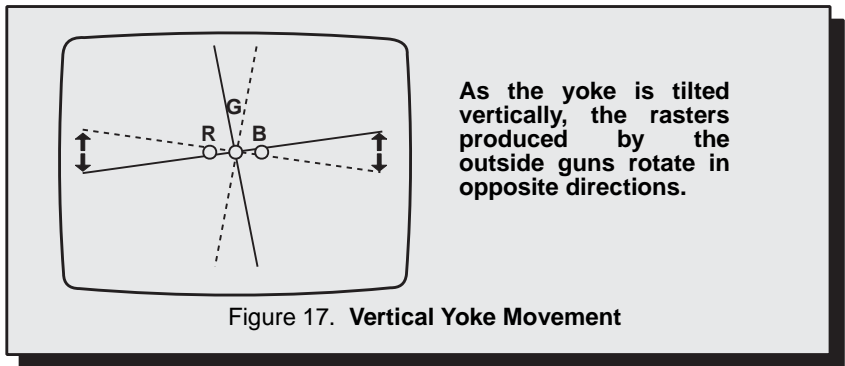
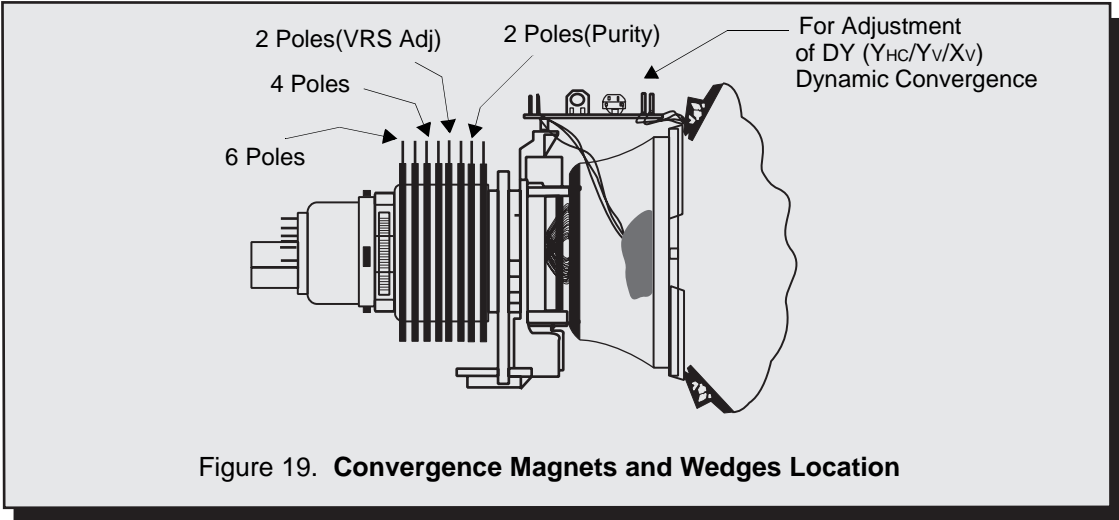

Figure 17. Vertical Yoke Movement
Figure 19. Convergence Magnets and Wedges Location
Final Convergence Procedure (see Fig. 17 through Fig. 19):
3. With a driver adjust VR1 (located in deflection yoke board Fig. 19) to obtain a proper convergence at top and bottom of the screen (See Fig. 13)
3. With a driver Adjust VR2 (located in deflection yoke board Fig. 19) to obtain a proper convergence at left and right side of the screen. (See Fig. 14)